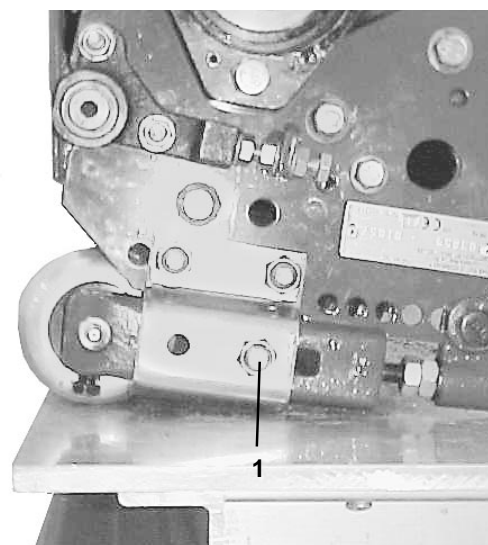

Figure 24
4. Loosen the lock nuts on the rear side brackets (Fig. 24).